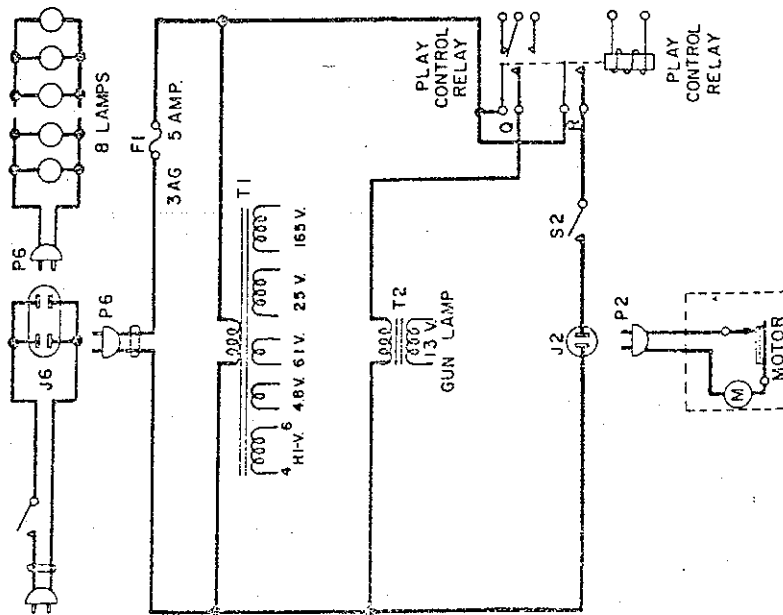

Figure 1.
The TARGET MOTOR drives the target figures. It operates at 117-volts, through the Play Control Relay (R) Figure 1.
This position exists when the starting operation has been completed and the play control relay is energized. Contact R of the relay completes the target drive motor circuit. Contact Q connects the gun lamp transformer primary to the line. See Figure 1.